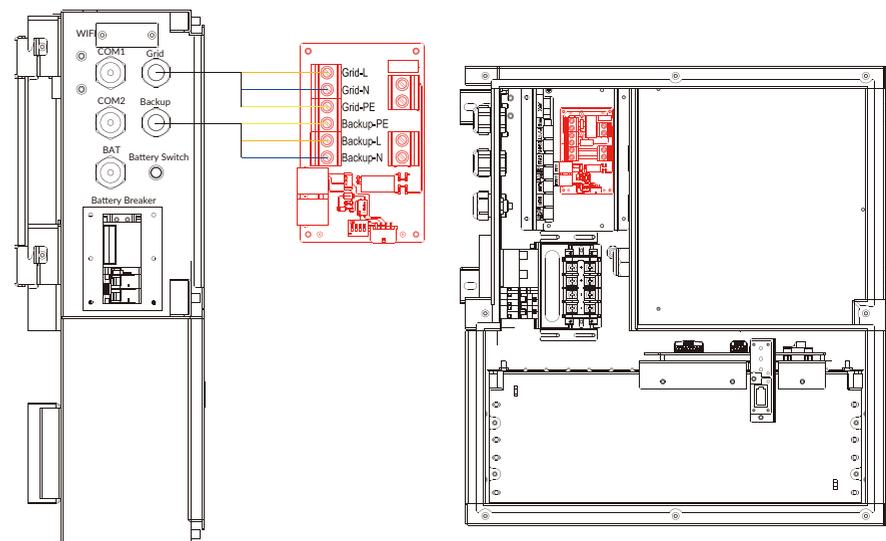

Figure 2.13 Backup and Grid Wire Harness Wiring
Step 9 Connect Grid and Backup wire harness, as shown in Figure 2.13.